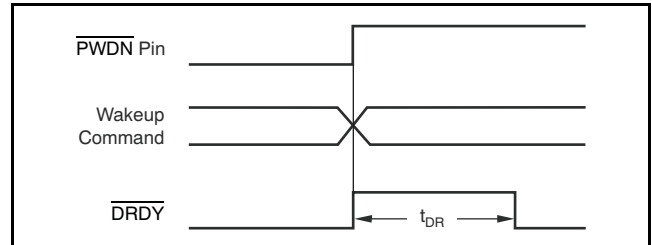

Figure 41.  $\overline{\text{PWDN}}$  Pin and Wake-Up Command Timing
In power-down, note that the device outputs remain active and the device inputs must not float. When the Standby command is sent, the SPI port and the configuration registers are kept active. Figure 41 and Table 12 show the timing.
(1) See Figure 41 and Table 12 for time to new data.